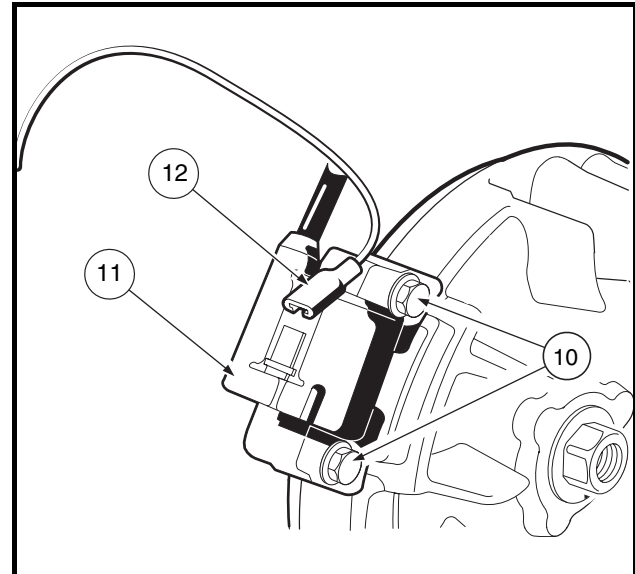

Figure 12-28 Coil Removal
10. Disconnect the 18-gauge black wire (12) from the spade terminal on the ignition coil (11) and remove the coil by removing two bolts (10) (**Figure 12-28, Page 12-26**).